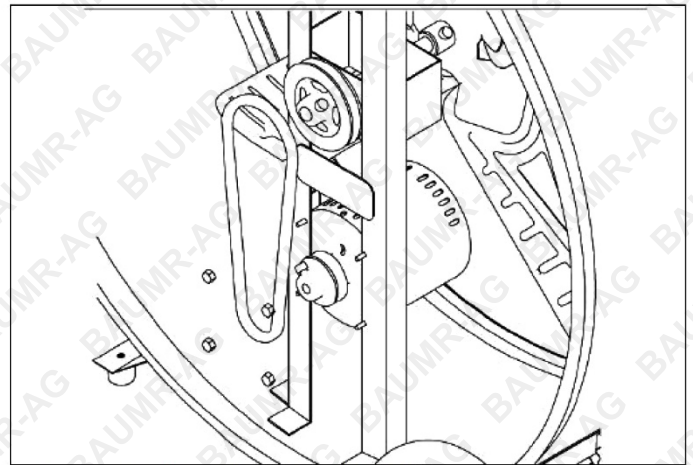

Figure 3: Adjusting Fan Belt
3. Remove the belt to replace it or adjust the motor to tighten the belt (see figure 3).